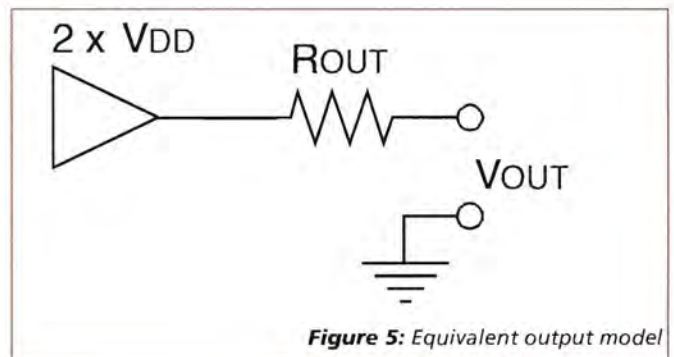

Figure 5: Equivalent output model
*Note: The output voltage of a capacitive double is unregulated and will sag with increasing load current. Typically, the output is modelled as a voltage source with a series resistance (see **Figure 5**).*